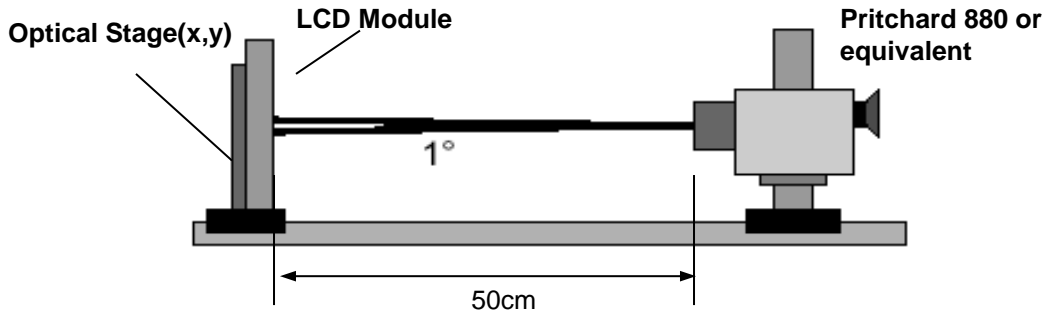

FIG. 1 Optical Characteristic Measurement Equipment and Method
Optical characteristics are determined after the unit has been 'ON' and stable in a dark environment at $25\pm 2^{\circ}\text{C}$. The values are specified at 50cm from the LCD surface at a viewing angle of Φ and θ equal to 0° . FIG. 1 shows additional information concerning the measurement equipment and method.
- Surface luminance are determined after the unit has been 'ON' and 1 Hour after lighting the backlight in a dark environment at $25 \pm 2^\circ\text{C}$. Surface luminance is the luminance value at center 1-point across the LCD surface 50cm from the surface with all pixels displaying white. For more information see the FIG. 1.